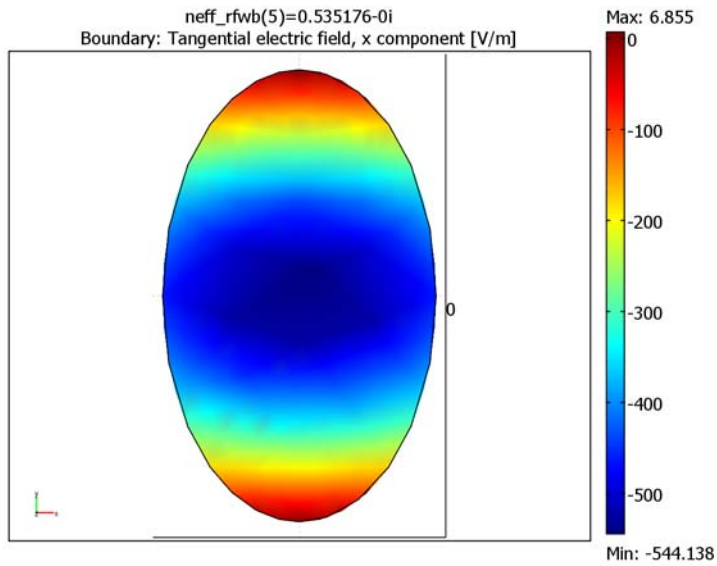

Figure 3-13: The  $x$  component of the electric field for the first eigenmode of the elliptical port.
The first eigenmode of the elliptical port is displayed in Figure 3-13. The effective mode index is  $\beta/k_0 = 0.535$ .
- 4 Click **OK** to plot the field and click the **Go to XY View** button to better see the field (see Figure 3-13 on page 87)